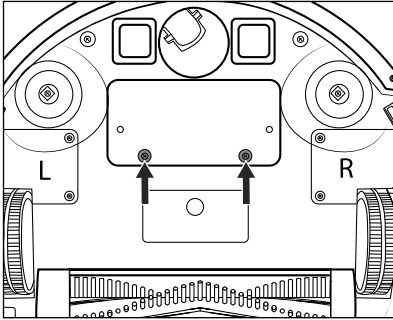

Fig. 16
- 1) Loosen the two screws of the battery compartment cover 29 (see Fig. 16) on the underside of the appliance using a Phillips screwdriver, and remove it from the appliance. Remove the battery compartment cover 29 from the appliance.